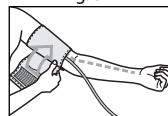

Fig. 4
2. Apply the cuff to your left upper arm so that the air tube is directed to your palm (fig. 4). If the measurement on your left arm is difficult, you may use your right arm. In this case remember that the readings may differ by 5-10 mmHg and even more.